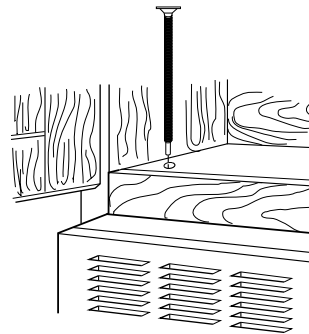

Figure 31
3. Insert a bolt down through each hole in the upper cabinet bottom. See **Figure 31**. Tighten the bolts until the gap between the upper cabinet and microwave oven is closed.